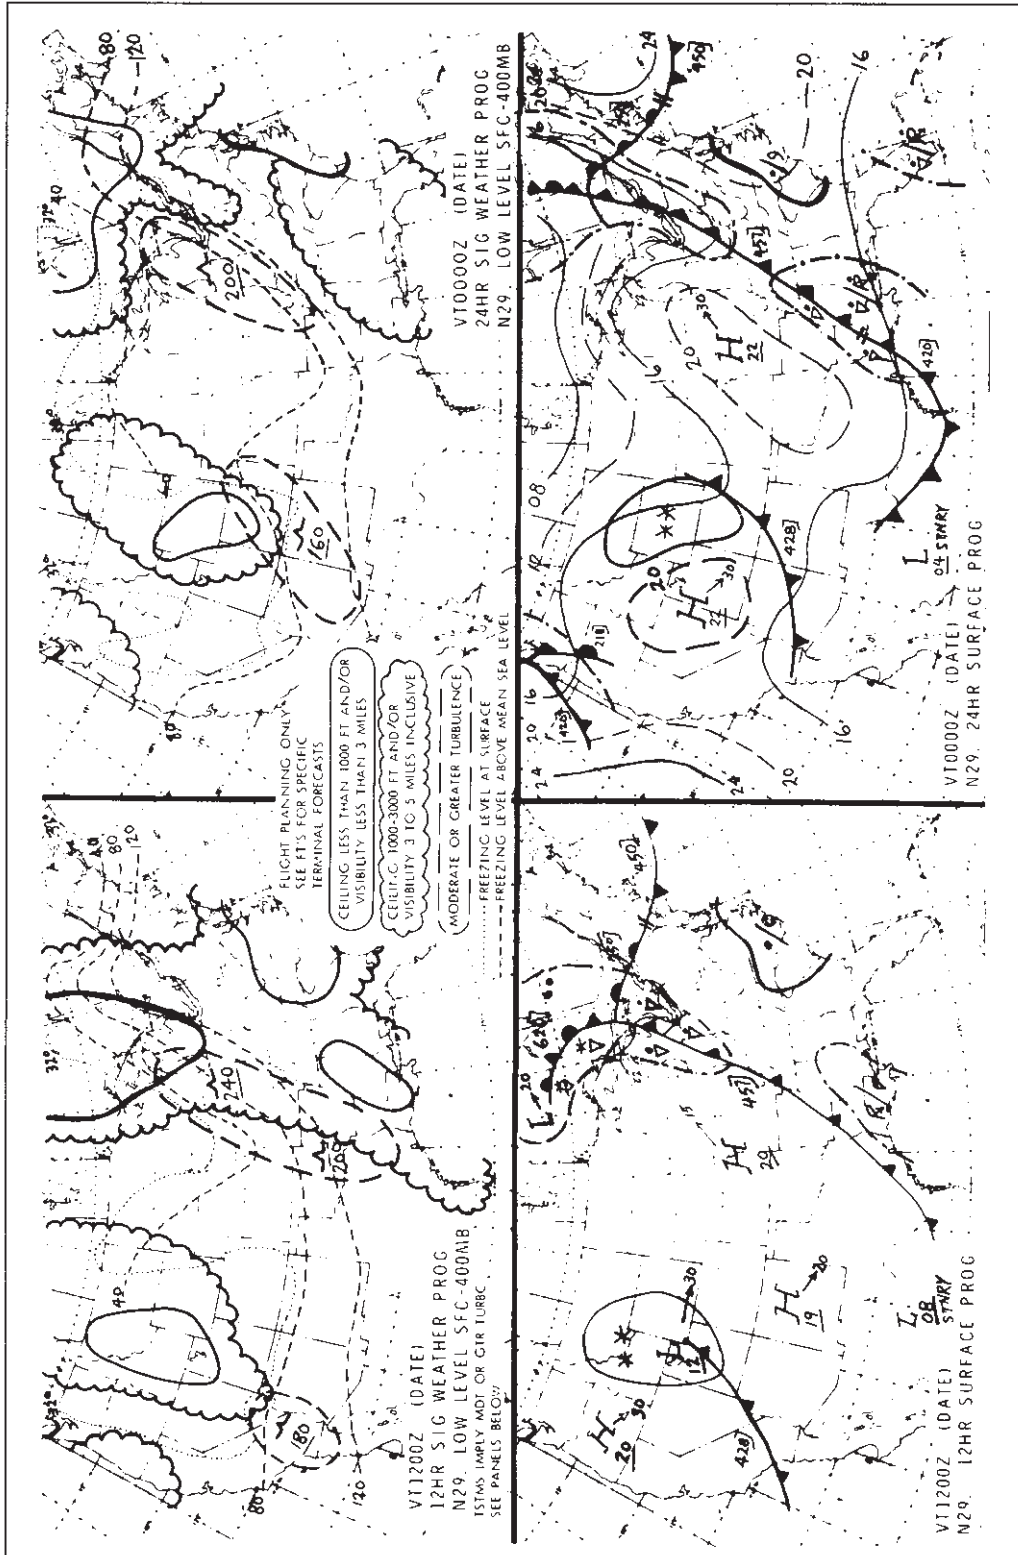

Figure 36-21 Questions 73 to 76.
*Refer to figure 36-21 (page 753)